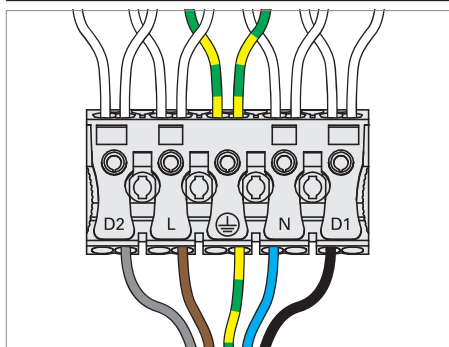

Fig. 5: Connecting the luminaire.
- ▶ Connect the wires of the connecting cable to the terminal on the luminaire frame, see Fig. 5.